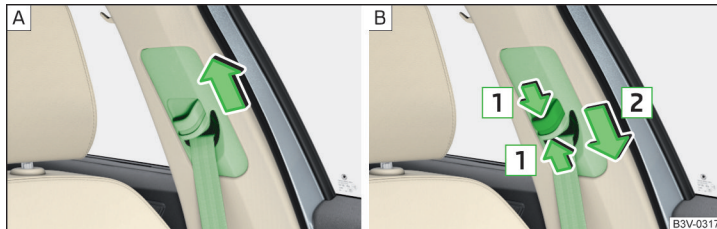

Fig. 5 Seat belt height adjusters for front seats
- Push the return pulley **upwards** in the direction of arrow » Fig. 5 - **A**.
- **Or**: push together the mechanism in the direction of arrows **1** and push the return pulley **downwards** in the direction of arrow **2** » Fig. 5 - **B**.